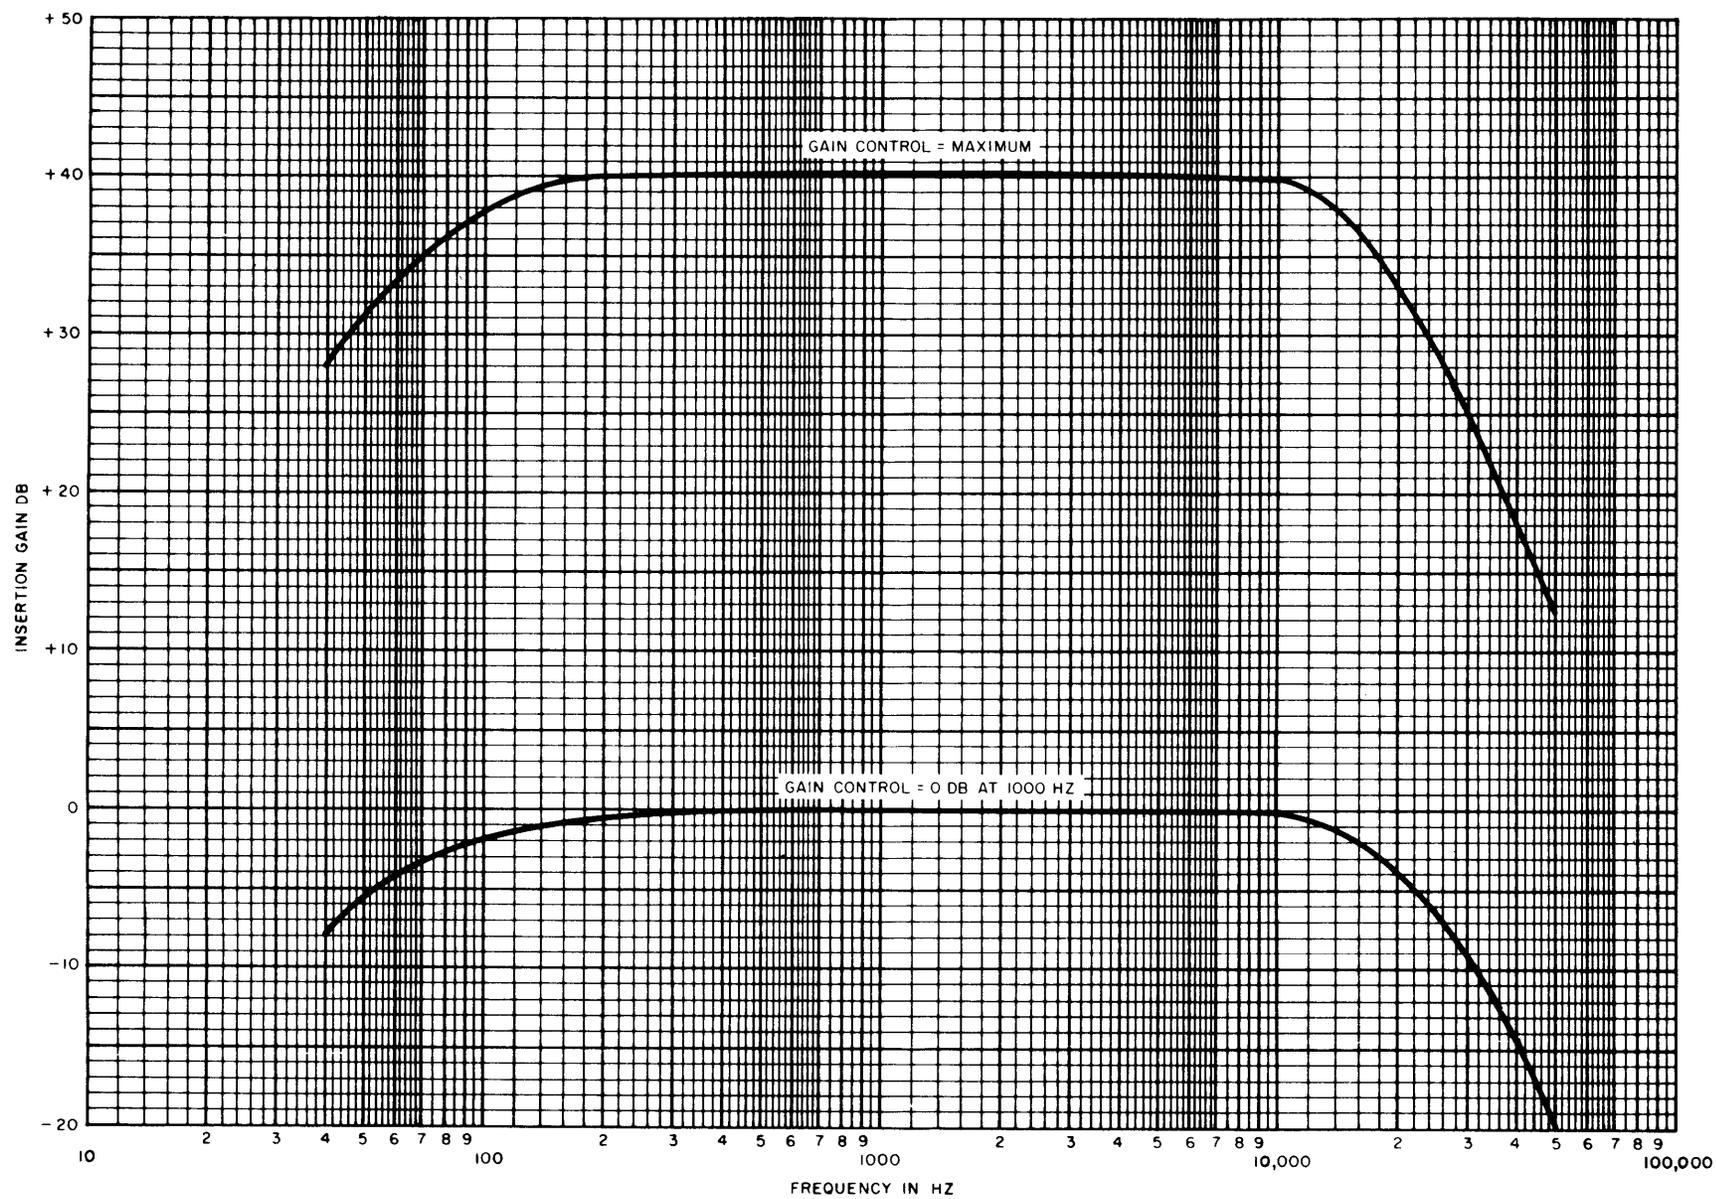

Fig. 5—KS-20378 Amplifier Gain-Frequency Characteristics
4.02 The gain-frequency characteristics of the amplifier are shown in Fig. 5. The upper curve shows maximum gain of the amplifier, and the curve is essentially flat between 200 and 10,000 Hz. The other curve, labeled 0 dB gain at 1000 Hz, is essentially flat from 1000 Hz to 10,000 Hz.